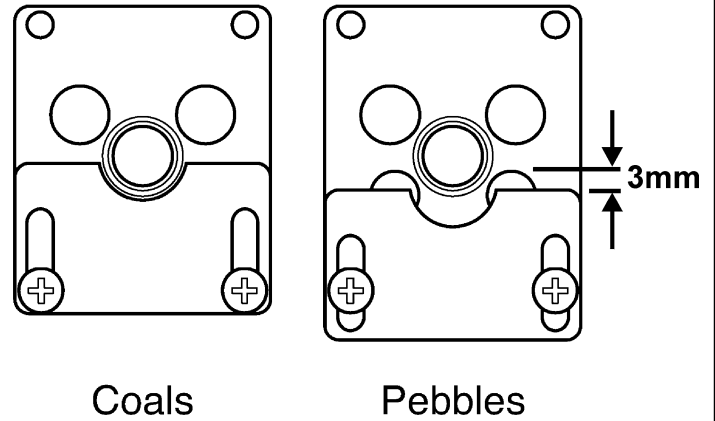

Figure 31. Aeration shutter settings
1. The aeration shutter is factory set for use with a ‘pebble’ ceramic fuel effect. It is important to ensure that the aeration setting is correct for the ceramic fuel effect used. Check the aeration shutter setting even if fitting the ‘pebble’ fuel effect (See figure 31).